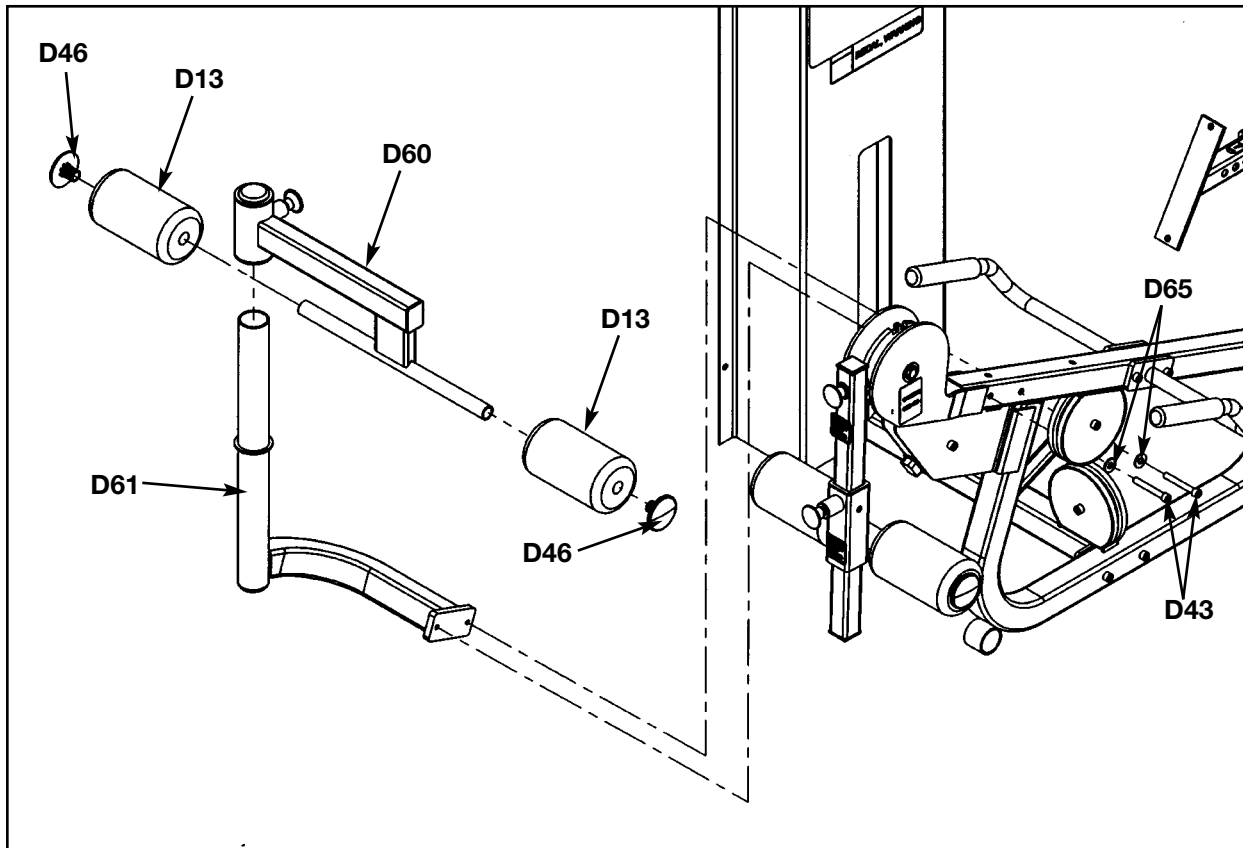

Figure 14
- E. Install cushion post (#D61) using two washers (D65) and two SHCS (#D43). See Figure 14.
- I. Pull out detent pin and slide cushion bracket (#D60) onto cushion post (#D61) as shown in Figure 14.